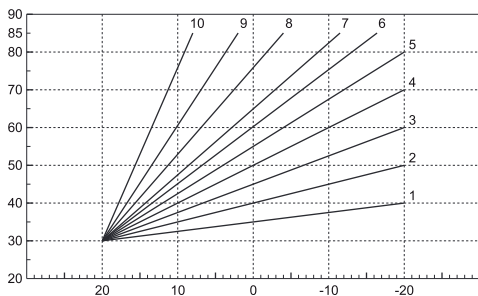

fig. 24 - Compensation curves
- **Curves:** select this item and use "+" and "-" DHW side (  $\overline{\text{DHW}}$  ) to per select the required curve from 1 to 10. By setting the curve to 0, the sliding temperature adjustment is disabled (see fig. 24 - Compensation curves).